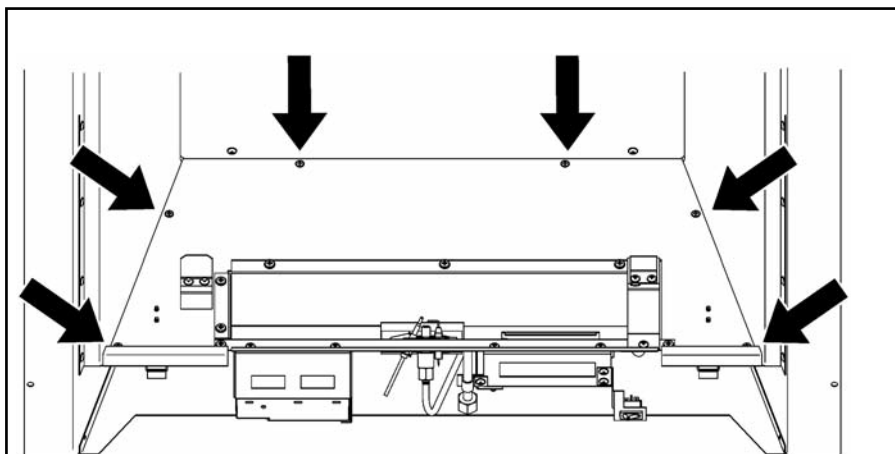

Figure 39. Burner removal
2. Detach the burner unit and support tray from the convection box by removing six screws (See figure 39). Lift the burner unit clear.